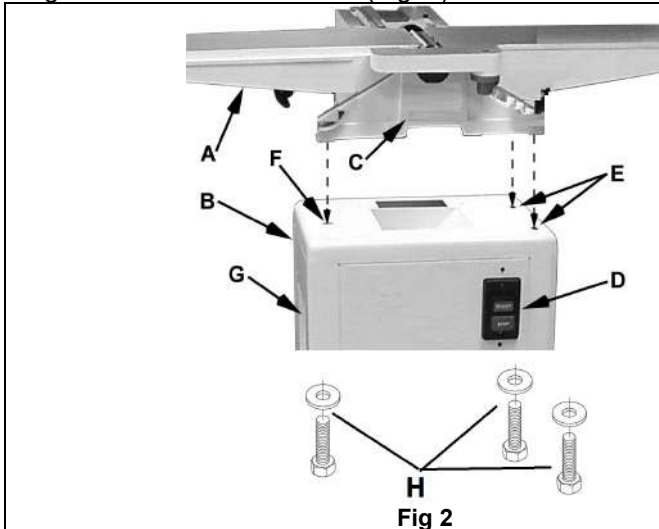

Fig 2
Place the machine on top of the stand with the pulleys on the same side and secure with the three hex bolts (H, M10x16) and lock washers provided, screwing up from underneath (See Fig 2)
Referring to Fig.2:
1. Place bed assembly (A) on top of stand (B). Be sure the identification label (C) on the bed faces the same direction as the switch (D) on the stand.
2. Line up two holes in the stand top (E) with holes in the bed assembly by viewing through the access door in rear side of the stand.
3. Attach stand to bed assembly by using two M10x16 lock bolts and lock washers (H, Fig. 2). Hand tighten only at this time.
4. Line up the third hole in the stand (F) with the hole in the bed assembly by viewing through the dust chute (G).
5. Install the third M10x16 lock bolt and lock washer through the dust chute (G) to secure the bed to the stand.
6. Tighten all three lock bolts H (Fig. 2) with a 14mm wrench.